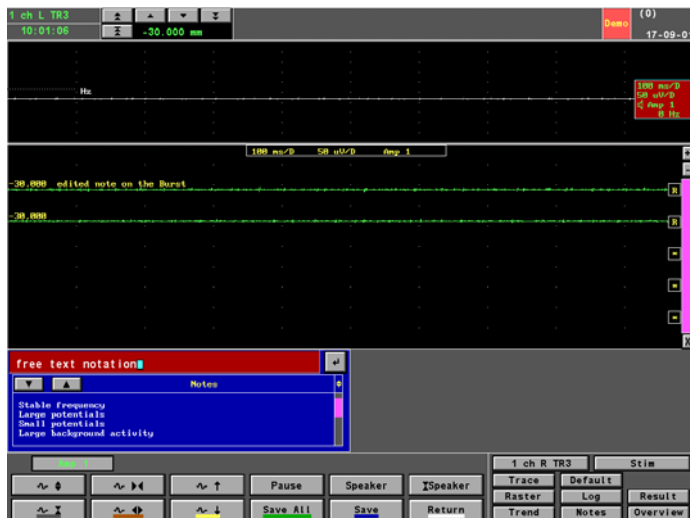

Figure 16 "Free Text Notation" in the Edit Box
- For example, type "free text notation" in the edit box, see Figure 16 below: